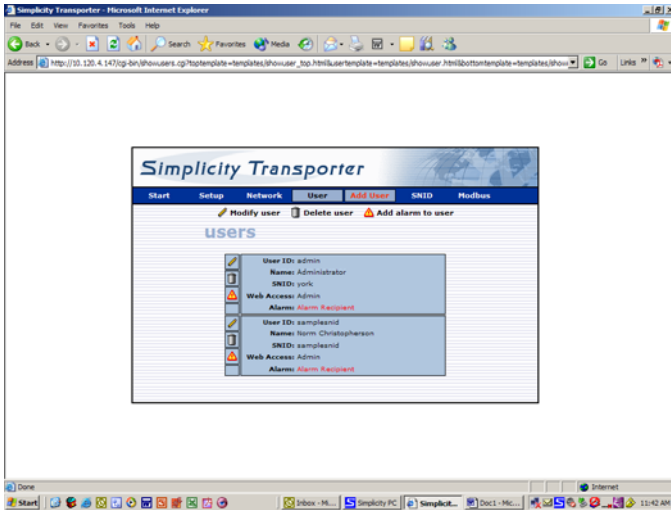

Figure 15
14. You have now completed setting up the “Transporter”. The screen in figure 15 shows two users. You may now go back and add additional users as desired.